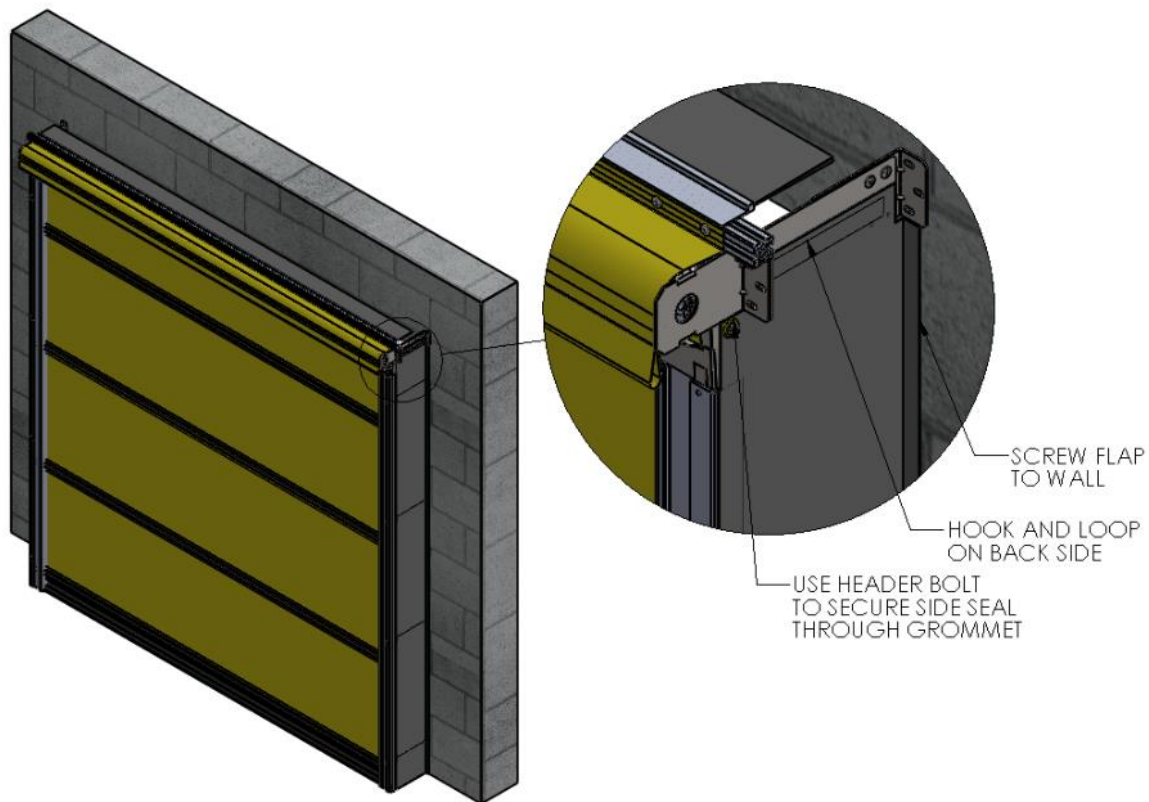

Figure 11 SECURE SIDE SEAL
(Figure 11 SECURE SIDE SEAL)
2. Fold the Side Seal Material to flatten it against the wall, and secure it through the material into the wall with appropriate screws. (Figure 11 SECURE SIDE SEAL)